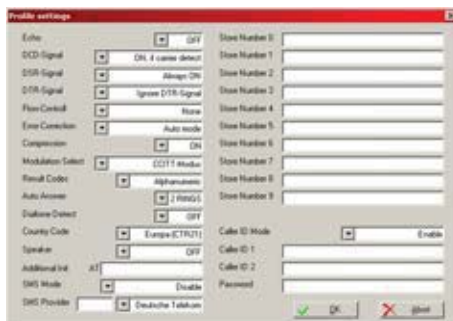

Fig. 187: Profile settings
4. ➤ Configure the settings shown in (Fig. 187) for the modem to accept an incoming call for remote configuration.